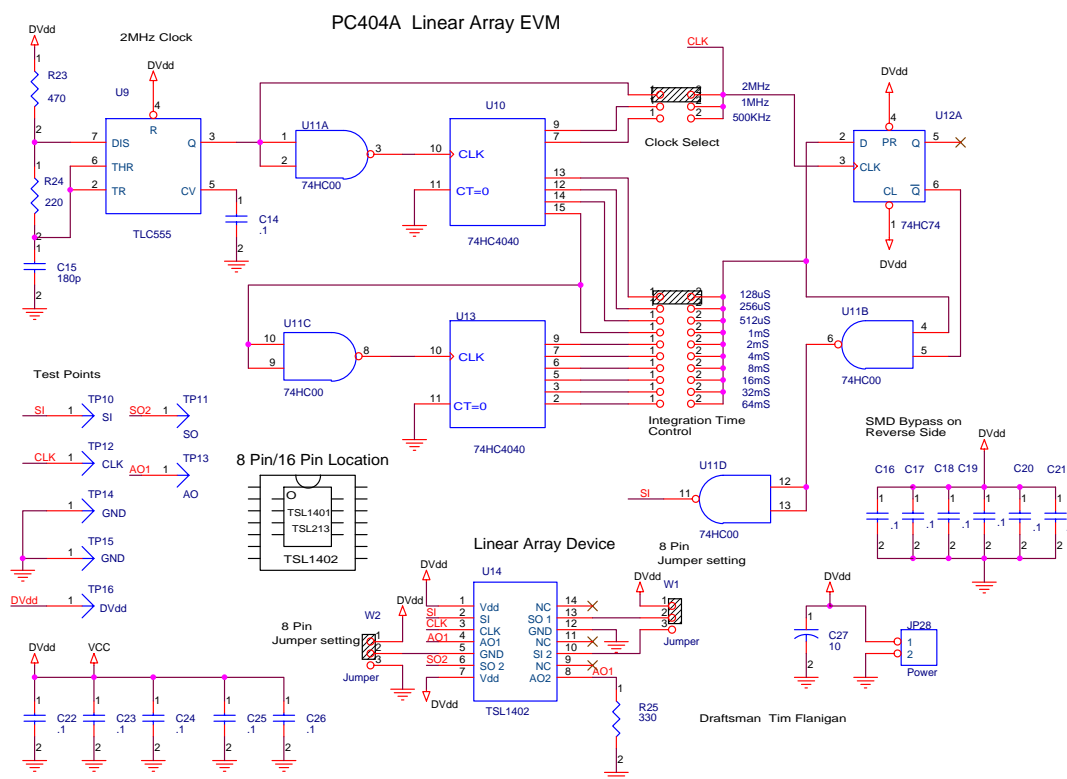
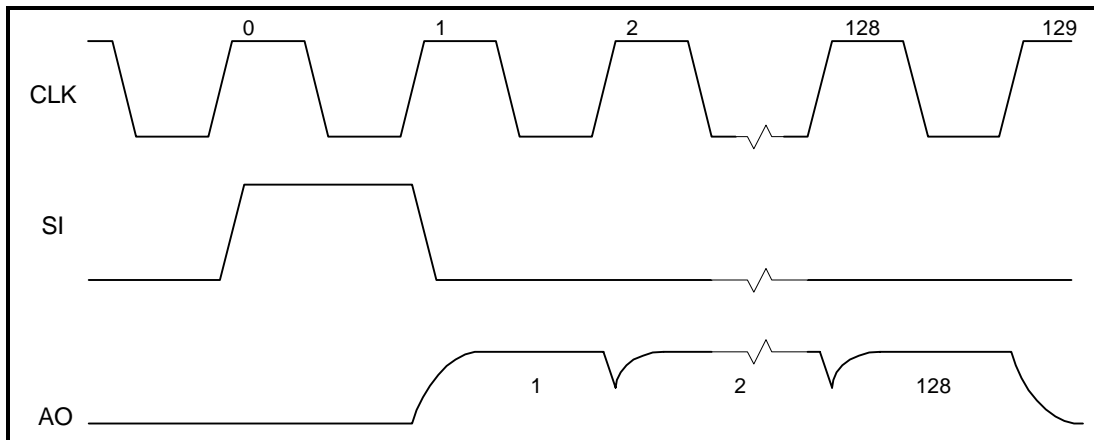

Figure 1 - PC404A Schematic Diagram
Figure 2 - System Timing (AO output for TSL1401 shown)
be selected from 2 MHz, 1 MHz and 500 kHz by moving the clock select jumper to the desired position (see Figure 1). U10, U11, and U12 generate the serial input (SI) pulse with the proper relationship to the clock (see Figure 2). The sensor integration time, defined by the time between SI clock pulses, may be selected from 128uS to 64mS by placing the jumper at the appropriate location.